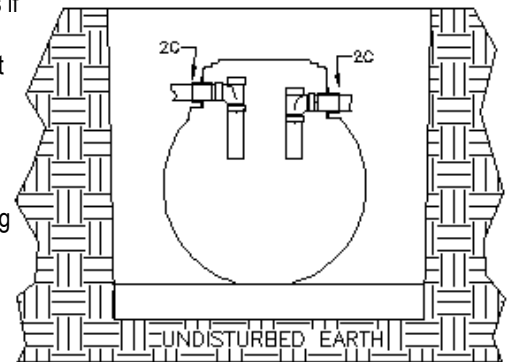

Figure 2
2. Tank Assembly / Installation (Figure 2)